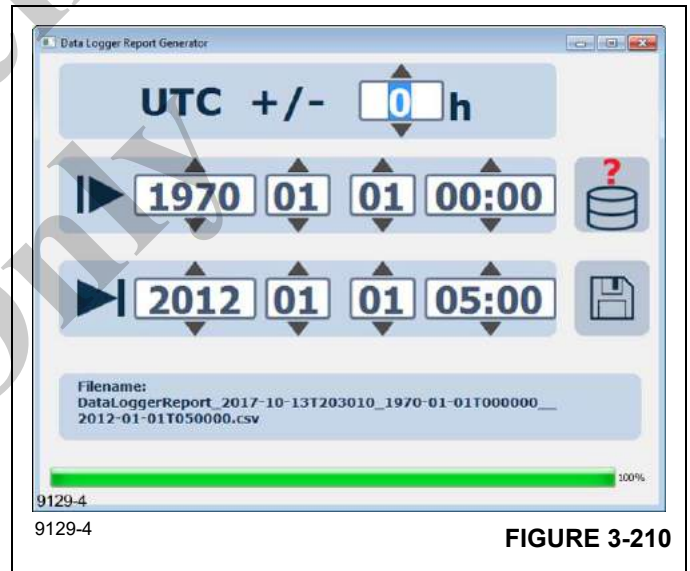

FIGURE 3-210
7. Select the save icon and choose the directory to save the report to (Figure 3-210).